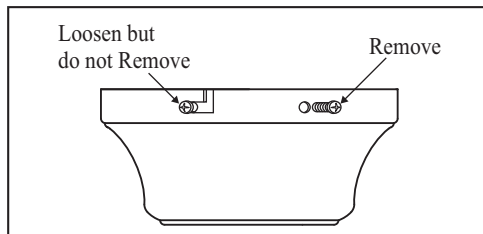

Figure 5
1. Remove the mounting bracket from the canopy by loosening the four screws on the top of the canopy. Remove the two non-slotted screws and loosen the slotted screws. (Figure 5)